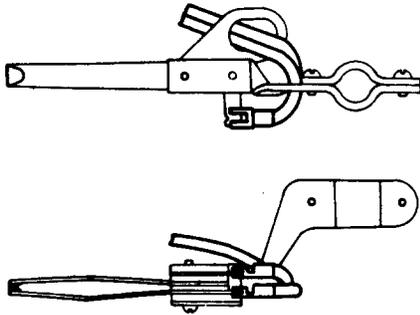

Fig. 7 - Method of Connecting Cords at Solenoid Master Switch Wipers
3.43 Wiper Cords: To replace the wiper cords unsolder and remove the cords to be replaced from the terminals of the wiper assembly and the terminals on the rear of the line switch frame. Open the gate to obtain access to the terminals on the rear of the line switch frame. Solder the new wiper cords to the terminals on the rear of the line switch frame, pass the cords through the cord holder on the wiper assembly as shown in Fig. 7, and solder them in position at the wiper terminals.